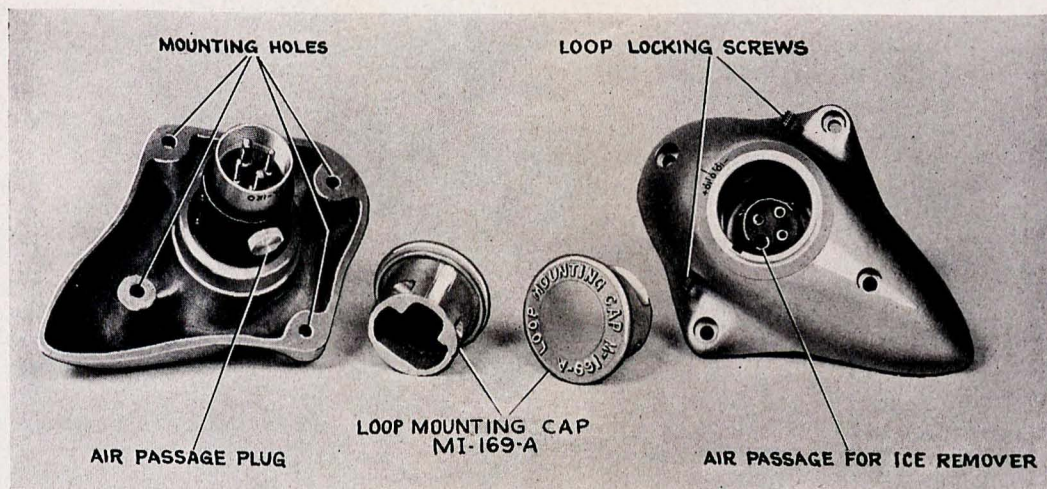

Figure 13—Loop Mounting GS-7-A (Fixed Loop) and Loop Mounting Cap M-169-A
- 2-4 **LOOP MOUNTING GS-7-A (FIXED LOOP).**—This mounting is provided for installing Loop LP-13-A in the homing position for use on aircraft. Two locking screws in the streamline housing serve to rotate the loop over a range of ± 10 degrees with respect to the mounting proper. A scale calibrated at the 5 and 10 degree points is marked on the rotatable part of the mounting and a fiducial mark on the fixed part. (See Figure 13.) The mounting flange dimensions of GS-7-A are the same as those of GS-8-A. A socket is provided for Plug PL-120 of Cord CD-310 for connection to Radio Compass Unit BC-310-A. A fixed capacitor, C-39, is mounted inside the loop mounting to make the capacity of the mounting the same as that of Loop Mounting GS-8-A. A hole, normally plugged, is placed in the base of the mounting and serves for connection of an air hose when loops equipped with ice removers are used.
- 2-6 **LOOP MOUNTING CAP M-169-A.**—A cap fitting either Loop Mounting GS-7-A or GS-8-A is provided and should be inserted in the mountings whenever Loop LP-13-A is removed, to protect them from entrance of water, dirt, etc. (See Figure 13.)